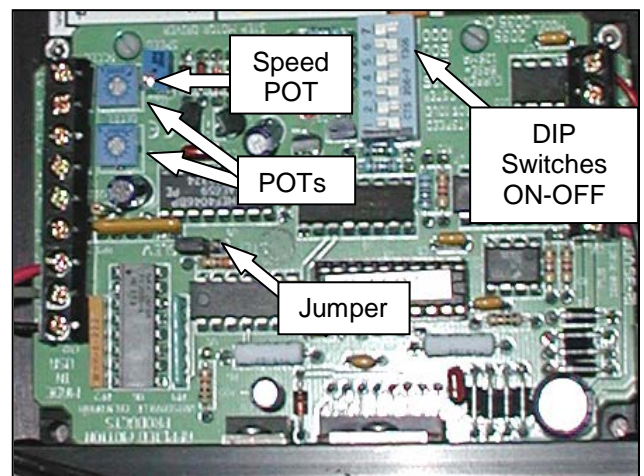

Figure 3-143. Print Head Stepper Drive
8. Reconnect all wires; there are nine lines (Figure 3-143).
10. Set the POTs to their maximum value (Figure 3-143).
11. Set the configuration DIP Switches (Figure 3-143).